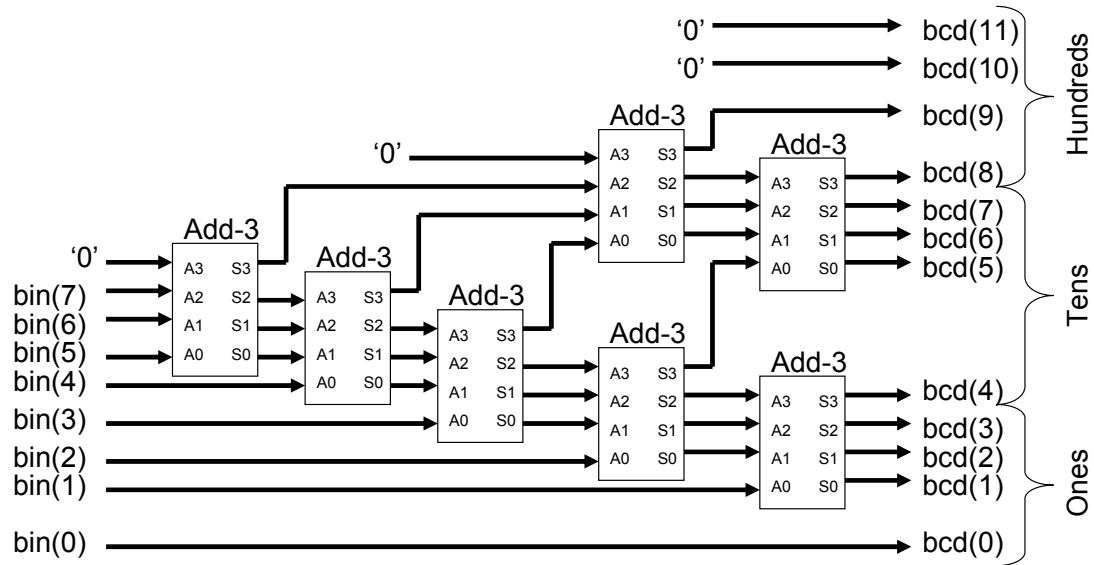

Figure 1. Shift-Add-3 circuit using the Add-3 module
To shift a set of numbers in a combinational circuit, the inputs are connected to the outputs, but shifted by one position. So the least significant bit would route to the second least significant bit. This can be repeated for each stage the Shift-Add-3 operation must occur. Note in the example in Table 5, only when there are three or more bits in a column does it need to be checked for Add-3. The circuit for the Shift-Add-3 is shown in Figure 1.
7. Follow Figure 1 to implement your circuit. Use the Add-3 module you created to place into the design. In the categories window, select the second line which is the directory name for your project. The symbol name "add3" will appear in the bottom left window.